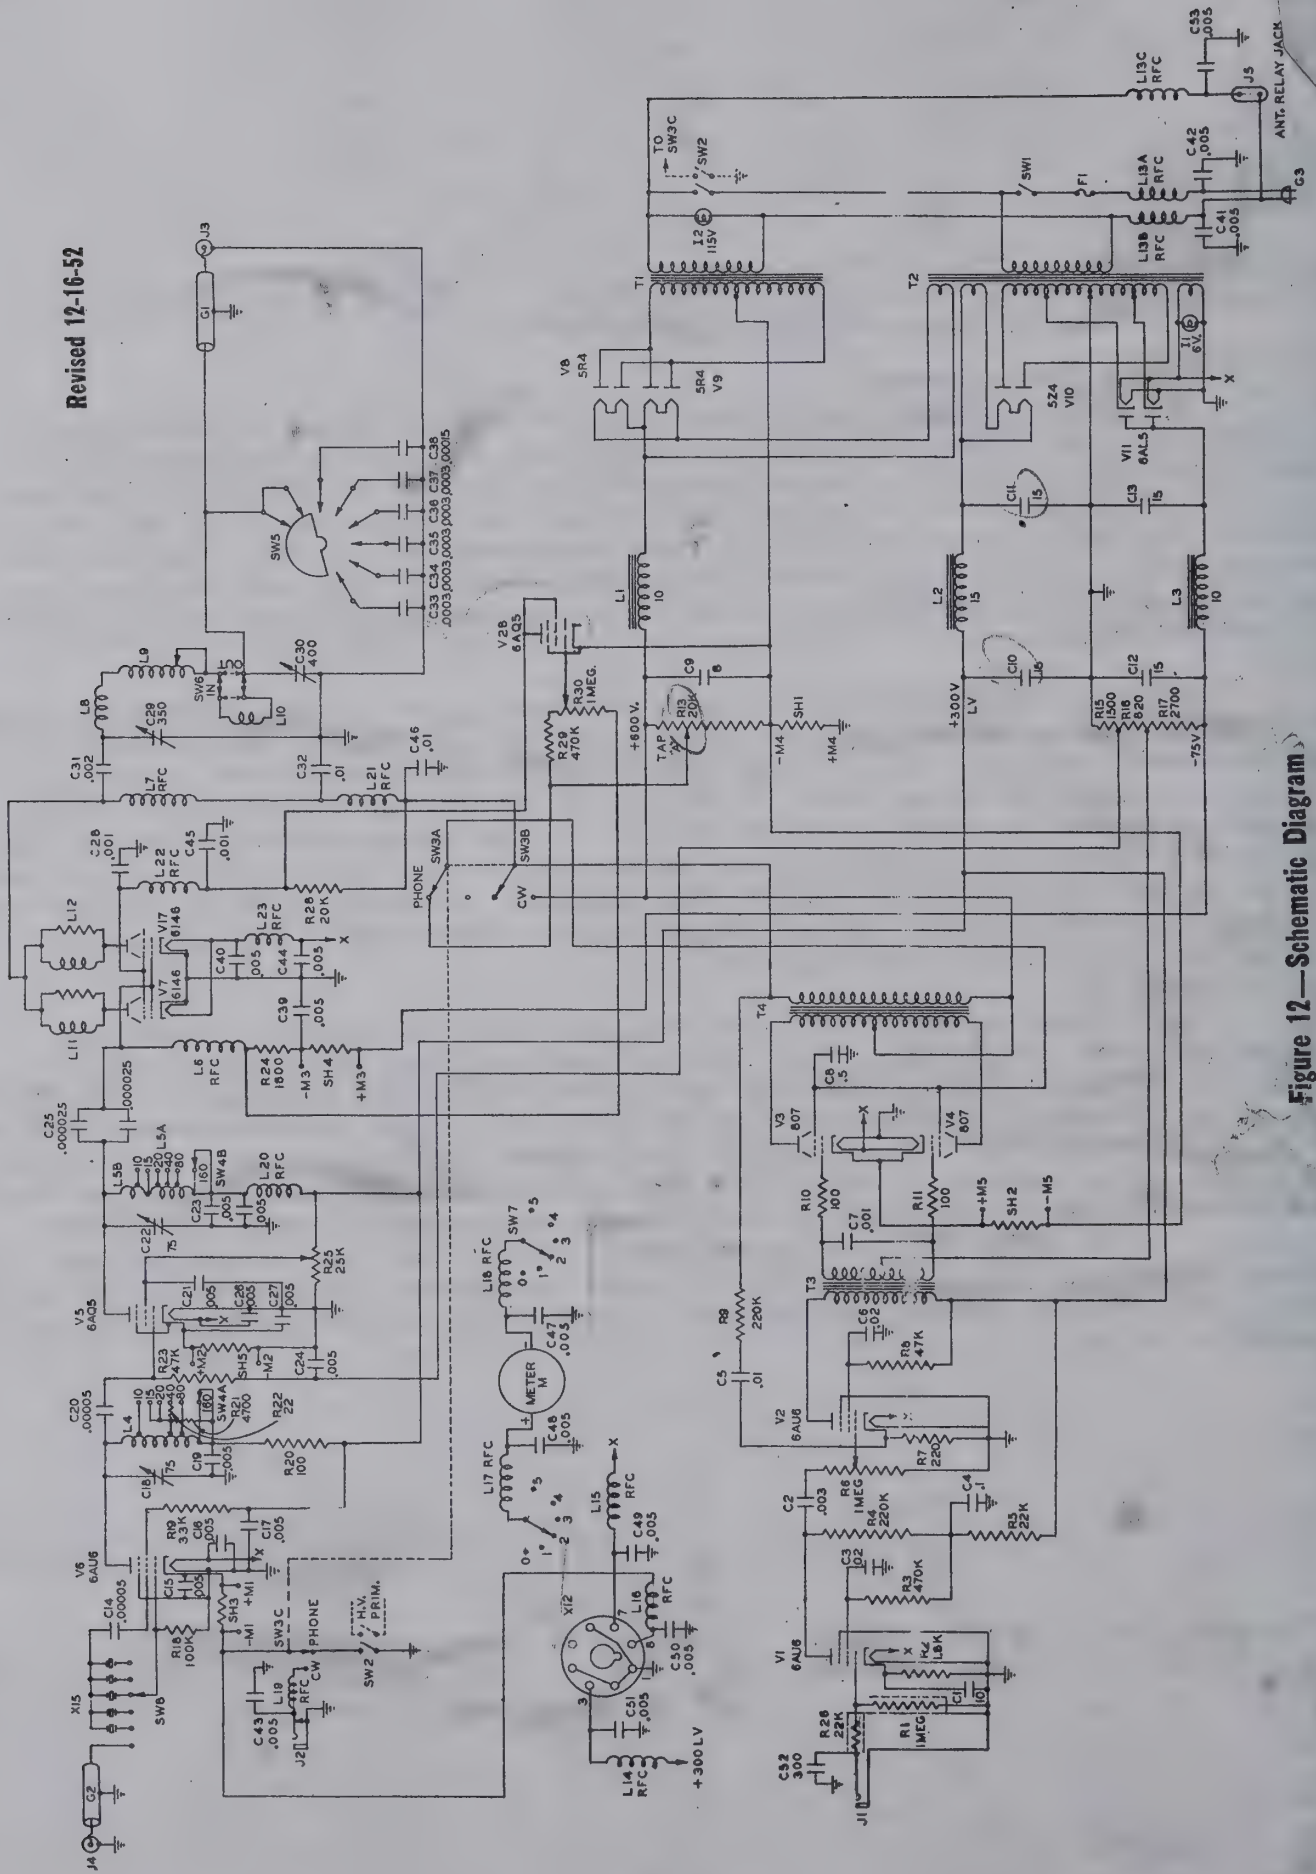

Figure 12—Schematic Diagram
27. (It is assumed that Modification A has been installed or that the subject Viking II transmitter conforms to the Schematic Diagram, Figure 12, in which the 6AQ5 clamper tube V28 appears.) Connect the .1 mfd. 400 volt capacitor from the modification kit between pin 5 of socket X3 and the terminal of R30 to which R29 has been previously connected. The end of the capacitor marked "ground" or "outside foil" should be connected to X3. Solder at both points.